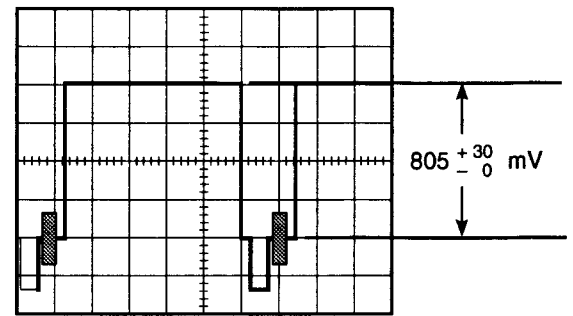

Fig. 5-8
- Adjust data with the **ARROW** keys so that signal level becomes 805 ± 30 mV as shown in Fig. 5-8.